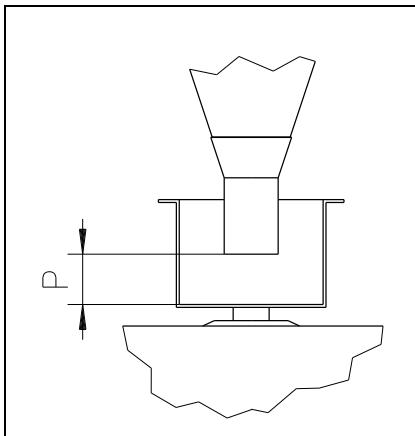

Fig. 5
- \* Set the desired gap between the bottom of the feed hopper and the bottom of the vibratory feeder channel by shifting the hopper holder; see **Fig. 5**.